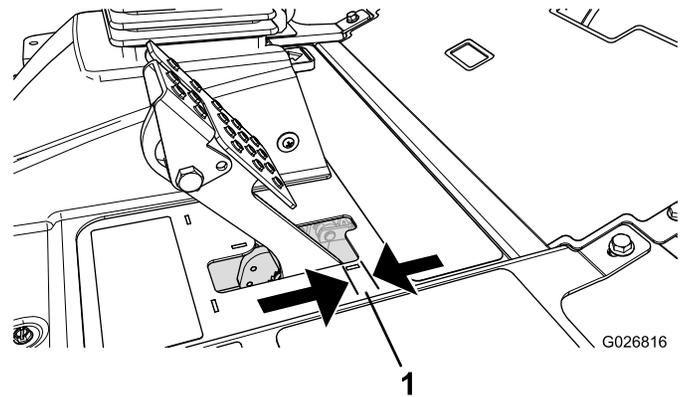

Figure 108
4. Lightly press the brake pedal; and measure the distance the pedal moves without resistance (Figure 108).
Note: Adjust the brakes if there is more than 2.5 cm (1 inch) of free travel (Figure 108) of the brake pedal, or if more parking-brake force is required.
6. Tighten the rear nuts to move the cable backward, until brake pedal has 6 to 13 mm (1/4 to 1/2 inch) of free travel (Figure 108), before the parking brake engages the wheels.